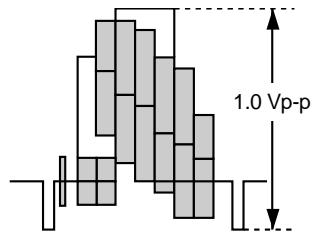

Figure 5-4.
4. Make sure that the output signal amplitude is 1.0Vp-p as shown in Figure 5-4.